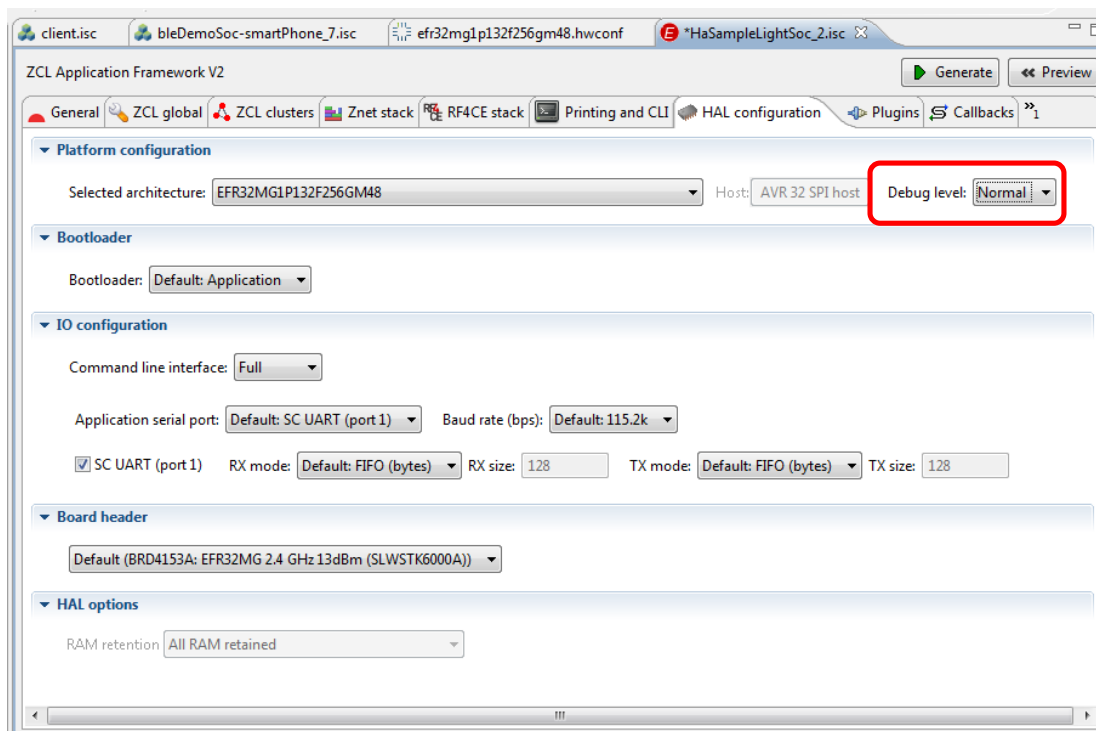

Figure 21. HAL Configuration Tab
1. On the HAL configuration tab, change **Debug Level** from Off to Normal (Figure 21).